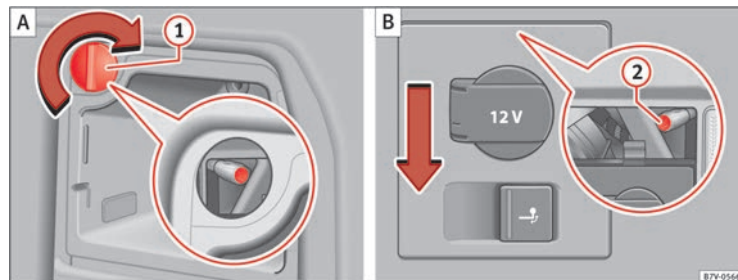

Fig. 214 On the side of the luggage compartment: To remove the left and right hand side tail lights. ① remove the cap; ② attachment screw
4.	Rotate the cap ① 90° in the direction of the arrow and remove it.
5.	Unscrew the attachment screw ⇒ Fig. 214 ② using the screwdriver from the vehicle tool kit ⇒ page 324. The bolt is secured in its position.